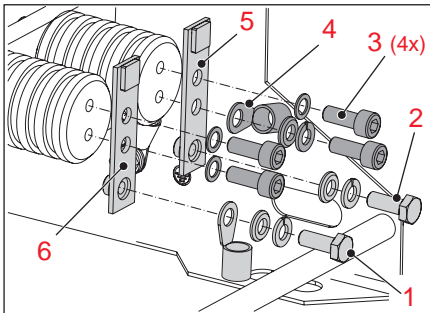

Figure 21
2. Release the hexagon head bolt M6 (2) and slide off the cable lug, serrated lock ring and retaining washer of the coach-side earthing cable, see **Figure 21**.
3. Release the hexagon head bolt M6 (1) and slide off the cable lug, serrated lock ring and retaining washer of the earthing cable to the WA main contact.
4. Release the four Allen screws (3) and remove them with retaining washers as well as the cable lug (4) with serrated lock ring for the housing-earthing cable.
5. Remove the contacts K1/13 (5) and K1/14 (6).
6. Apply Loctite thread locker (medium strength) to the threads of the four Allen screws (3).
7. Attach a new contact K1/13 (5) to the right isolator and tighten it with the two Allen screws (3) and retaining washers. In doing so, also fix the cable lug (4) with serrated lock ring and retaining washer for the housing-earthing cable with the lower screw.
8. Attach a new contact K1/14 (6) to the left isolator and tighten it with the two Allen screws (3) and retaining washers.
10. Connect the cable lug for the earthing cable to the WA main contact with the hexagon head bolt M6 (1), serrated lock ring and retaining washer to the contact K1/14 (6).
11. Connect the cable lug of the coach-side earthing cable with the hexagon head bolt M6 (2), serrated lock ring and retaining washer.